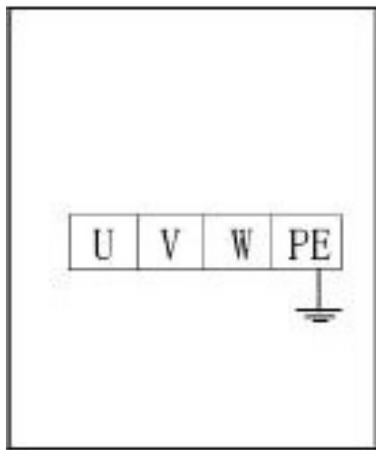

Fig 10
- Power line connection: Connect the four-wire 380V three-phase power line (3×2.5MM2 + 1×1.5MM2 cable) to the L1, L2, L3 interfaces and to the input terminal of the control cabinet, and connect the PE ground wire first to the marked ground bolt, then to the marked ground bolts at the bottom of both platforms (Fig. 10).